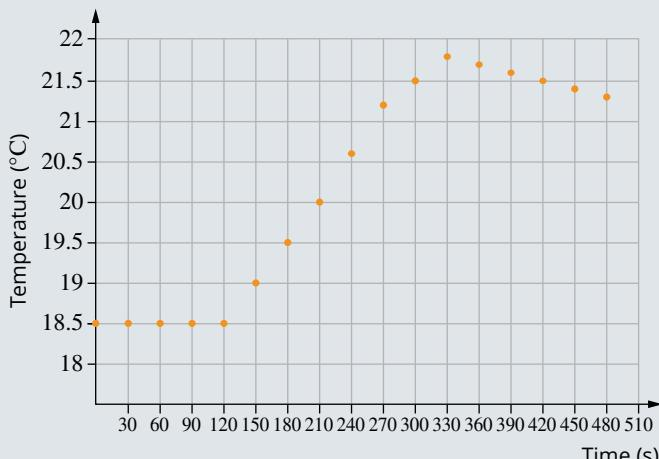

FIGURE 17.4.1 Temperature–time graph used for calibration of a calorimeter.
- 26** Figure 17.4.1 shows the temperature–time graph plotted by the data logging equipment used by a student to determine the change in temperature during the calibration of a solution calorimeter. The heater was turned on at $t = 120$ s and it was turned off at $t = 300$ s.